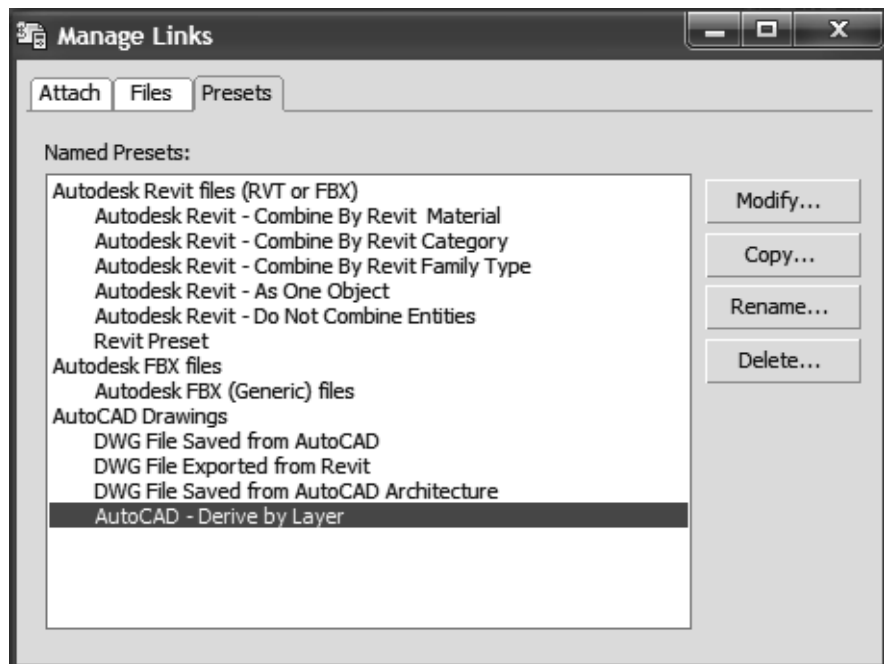

Figure 3–22
7. In the File Link Settings: DWG Files dialog box, in the *Basic* tab, set the link options, as shown on the left in Figure 3–23. Select the *Advanced* tab. Select **Create helper at drawing origin** and leave all of the other options as their defaults, as shown on the right in Figure 3–23.